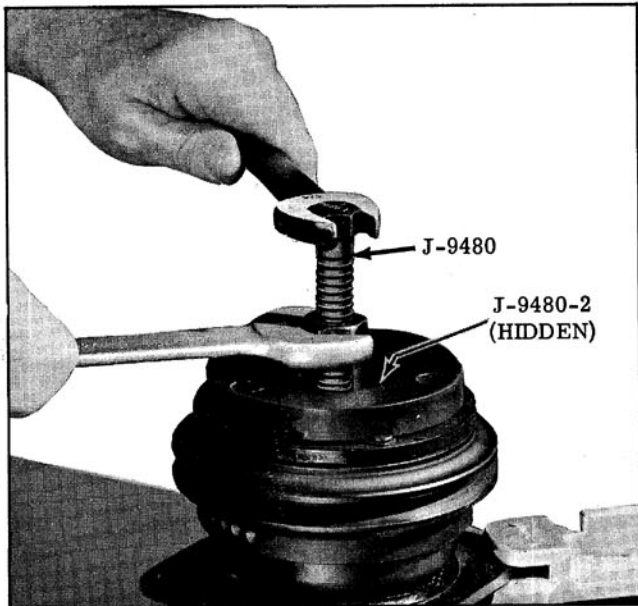

Fig. 14-79 Installing Driven Plate
3. Position the Driven Plate Installing Tool J-9480 on the threaded end of the shaft. The "Free" Washer, J-9480-2, should be in place under the hex nut on the tool. This tool has a lefthand thread on the body. (Fig. 14-79).